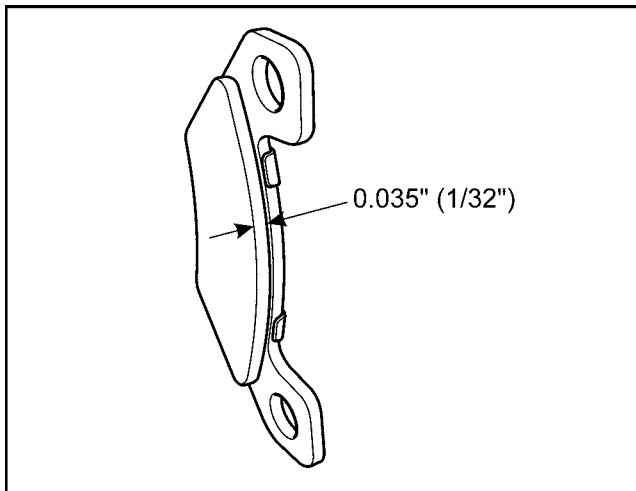

Figure 7-19b. Brake pad wear, HDi handbrake pads
- the brake lining material molded to each metal backing plate is worn to 0.035" (1/32") thickness. (Figure 7-19b).